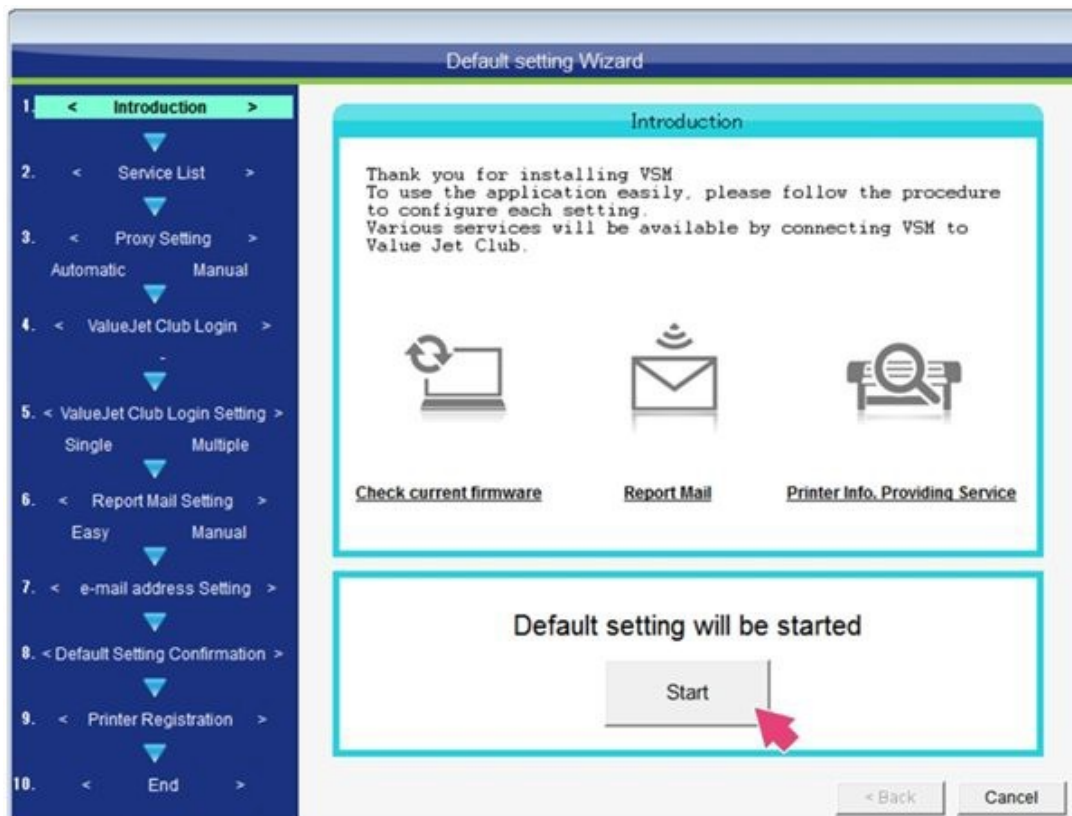

Figure 47
34. The Default Setting Wizard will assist with setup. Select **Start** to continue. See Figure 47.